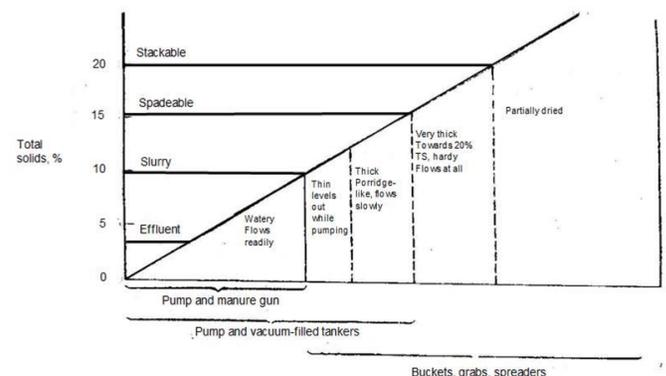

Figure 2 – Handling characteristics of manure at different moisture contents
For piggery and feedlot wastes, Figure 2 shows the range of total solids in a solid / water mixture and the characteristics and handling options for different ratios. The actual properties of sludges derived from various sources vary, even at the same total solids (TS) content. Hence, the following terms and their relative TS contents are a general guideline rather than a fixed rule.